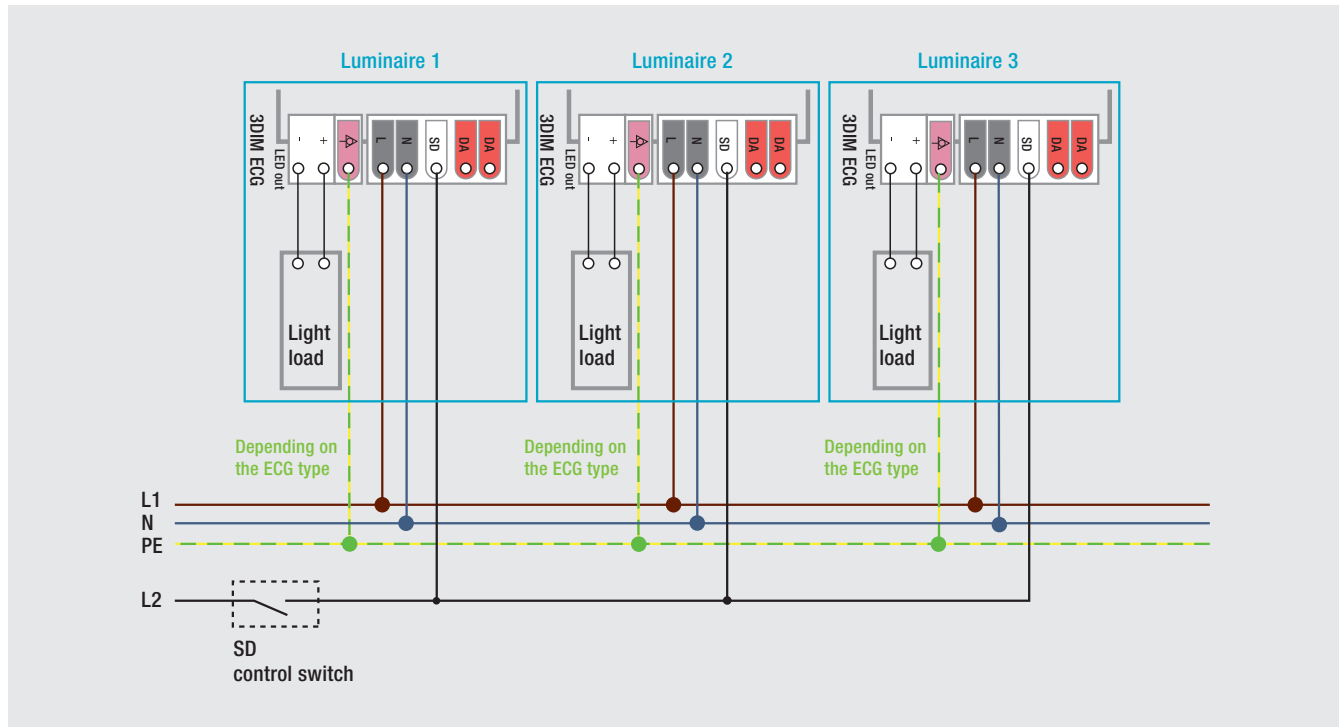
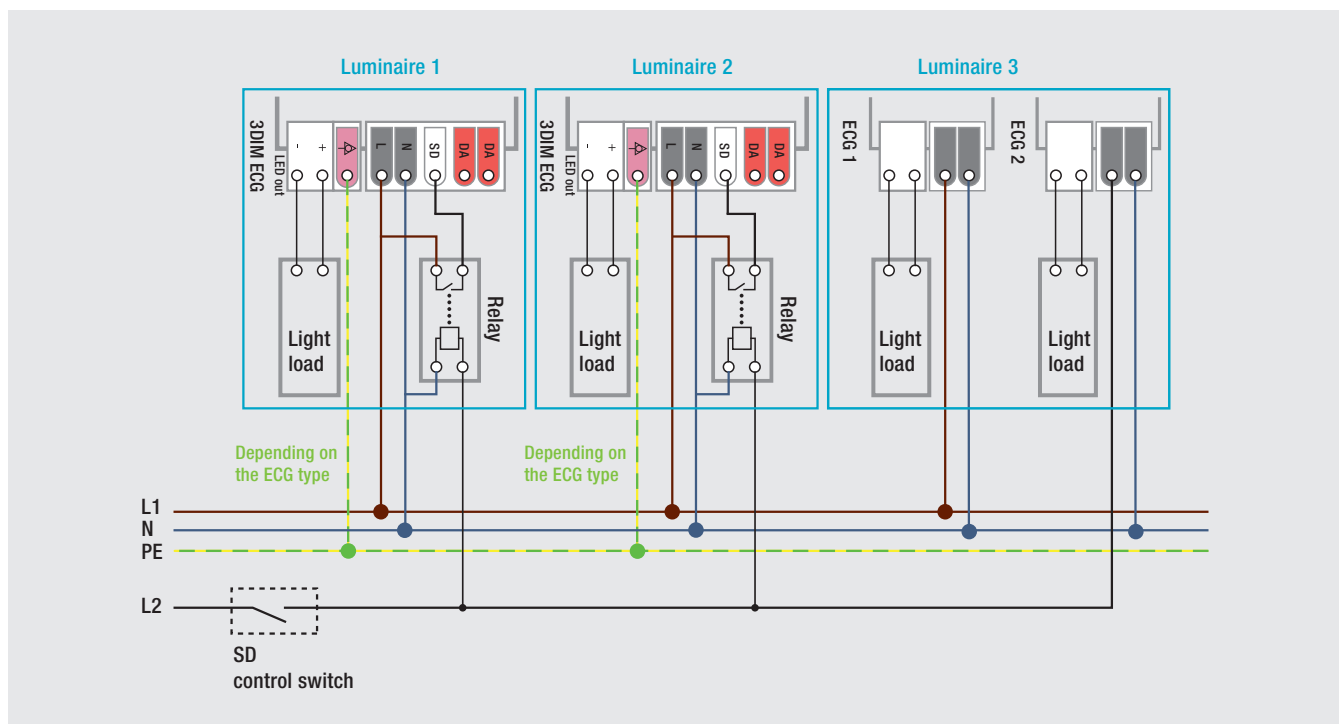

Figure 18a: StepDIM activation for a group of 3DIM ECGs by the same control switch (example).
Figure 18b: StepDIM port set-up inside luminaire for mixed installation (Phase L2 is used to activate SD and also to supply other ballasts or loads).
- The **AstroDIM** function is selected by establishing a permanent connection between phase (L) and the SD terminal of the ECG inside the luminaire compartment (see chapter 4.3.). It is activated as long as no DALI® command is received.
- **StepDIM** is operated via a dedicated control line or a switched phase (see figure 18a/b), which is not powered during the start-up phase of the ECG (at least 1 s).
- The control line or the switched phase to activate the StepDIM should only be connected to the SD port of the 3DIM ECGs. In all other cases, it is recommended to use a relay in between (figure 18b).
Figure 18a shows the setup if only 3DIM ECGs are connected to the SD control switch. In case other ballasts or loads are supplied via the SD line (e.g. L2) or an external surge protection device is connected to this port, an additional relay needs to be used within each luminaire (see figure 18b), unless something different is mentioned in the product-related documents (data sheet or instruction sheet). The used relay should be suitable for low switching currents  $< 1 \text{ mA}$  (mostly gold plated contacts).
The SD control switch shown in figures 18a/b can be a relay connected to a timer with a remote HIGH/LOW voltage signal.